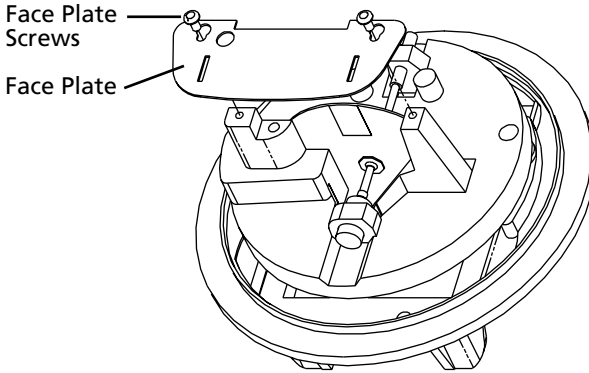

Figure 26. Removing Face Plate
2. Remove the face plate screws and face plate. See Figure 26.